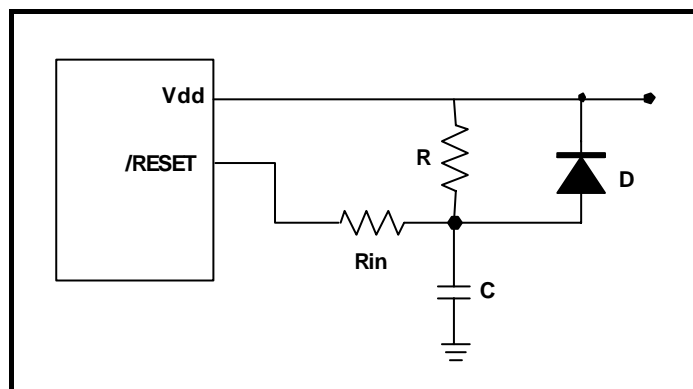

Figure 6-47 External Power-up Reset Circuit
The circuit shown in Figure 6-47 uses an external RC to produce a reset pulse. The pulse width (time constant) should be kept long enough for Vdd to reach minimum operation voltage. This circuit is used when the power supply has a slow rise time. Since the current leakage from the /RESET pin is  $\pm 5 \mu\text{A}$ , it is recommended that R should not be greater than 40 K $\Omega$ . In this way, the /RESET pin voltage is held below 0.2V. The diode (D) functions as a short circuit at the moment of power down.